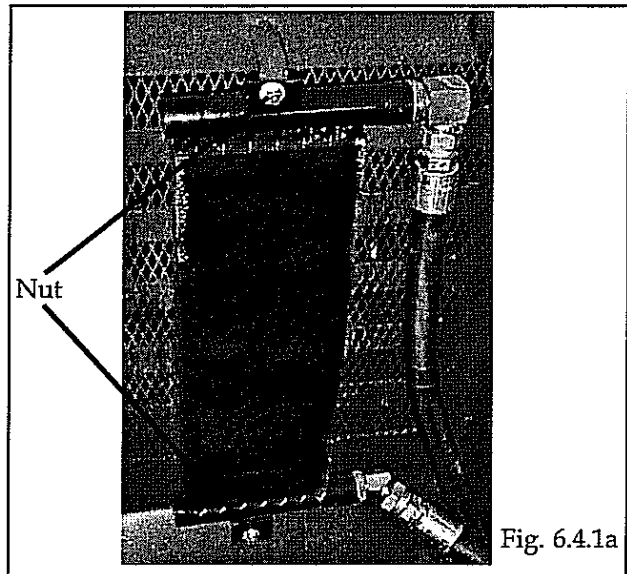

Fig. 6.4.1a
1. Remove the two (2) nuts securing the oil cooler to the rear door (Fig. 6.4.1a). Carefully lay the oil cooler with the hoses attached on the ground.
2. Install the hydraulic oil cooler on the rear door (Fig. 6.4.1a). Check that the hoses running to the oil cooler are not kinked or interfere when the door is opened or closed.